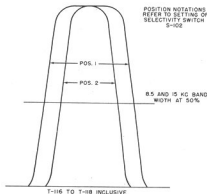

Figure 37. Second and third i-f stages, selectivity curves.
- (1) With the SELECTIVITY switch in position 2 adjust the tuning slugs in transformers T-116 and T-117 for resonance. Follow the procedure outlined in *c* above.
- (2) Check the circuits for symmetrical expansion by turning the SELECTIVITY switch to position 1.
- (3) The curves shown in figure 37 should be obtained on the oscilloscope when the stages have been properly aligned.